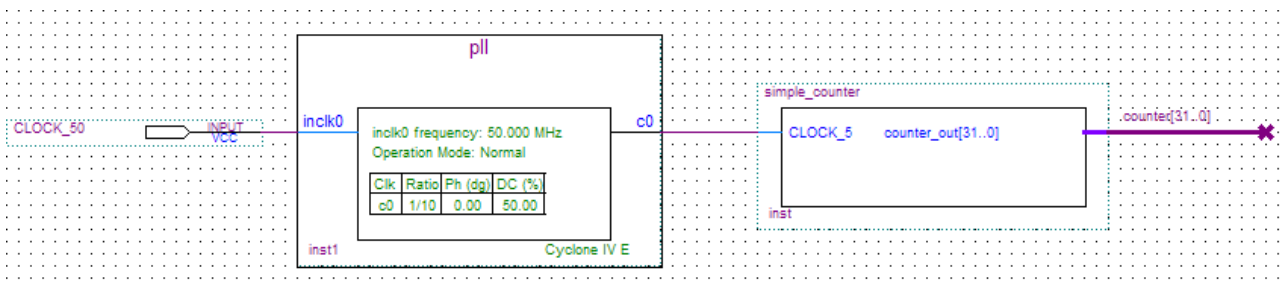

Figure 6-32 Circuit schematic (BDF)
4. Click **OK**. Figure 6-32 shows the BDF.